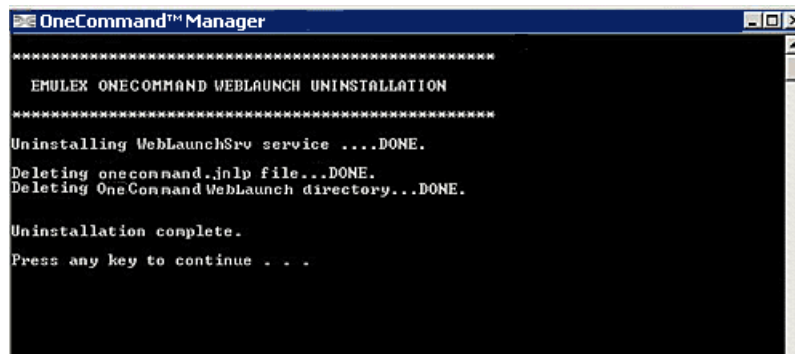

Figure 2-2 OneCommand Manager Application Web Launch Uninstallation Screen
1. Select **Start>Programs>Emulex>OCManager WebLaunch Uninstall**. The OneCommand Manager application Web Launch Uninstallation Screen appears (Figure 2-2 on page 33).